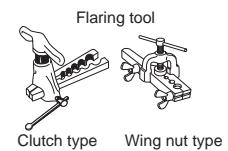

Fig. 4
- When routing the drain piping, make sure that the drain hose (1) is routed as shown. (Fig. 4)
- 4) Flaring work (Fig. 4, 5). Firmly hold copper pipe in the dimension shown in the table. Select A mm from the table according to the tool you use.